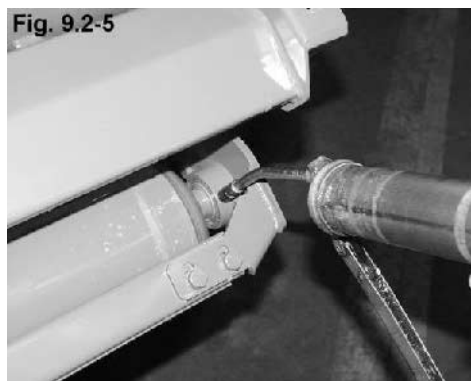

Fig. 9.2-5
- Cage roller bearings (Fig. 9.2-5)